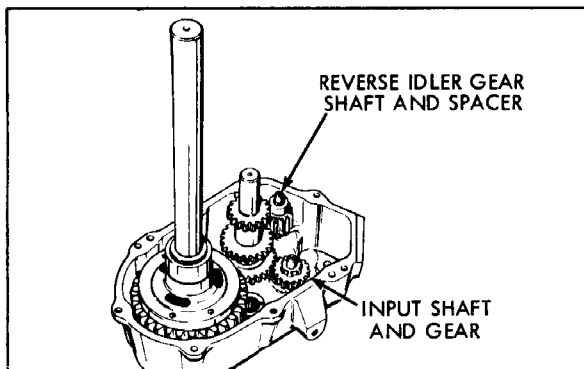
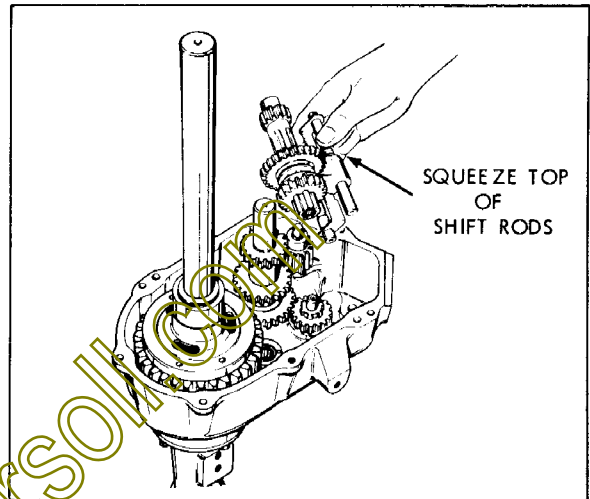

Figure 2-7
Figure 2-11
8. Remove the reverse idler shaft, spacer and gear. (Fig. 2-7)
- Position the reverse idler shaft in the unit, then install gear and spacer. (Fig. 2-7) or (Fig. 2-11)
5. Install the shifter assembly as a unit into the case. When installed correctly, the neutral square formed by the shifting forks should appear through the case opening for attaching the shift housing. Both shift gears should be out of mesh. (Figure 2-11)